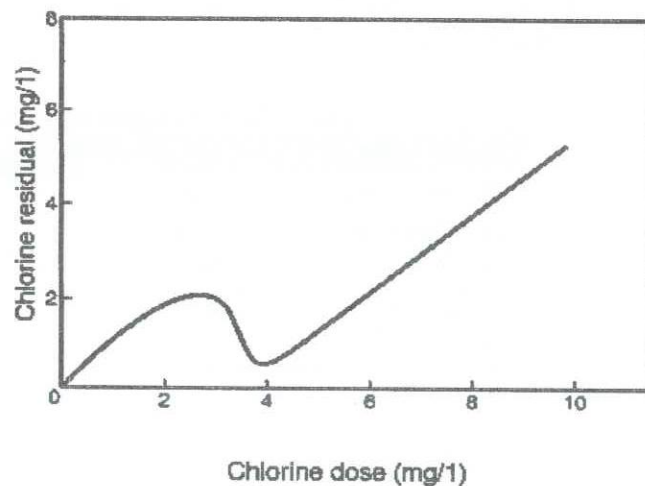

Figure Q3: Chlorination curve
- d) Figure Q3 shows the chlorination curve for the raw water, which is going to be used in the proposed water treatment plant in Q1. It is expected to maintain 0.6 mg/L of free chlorine.